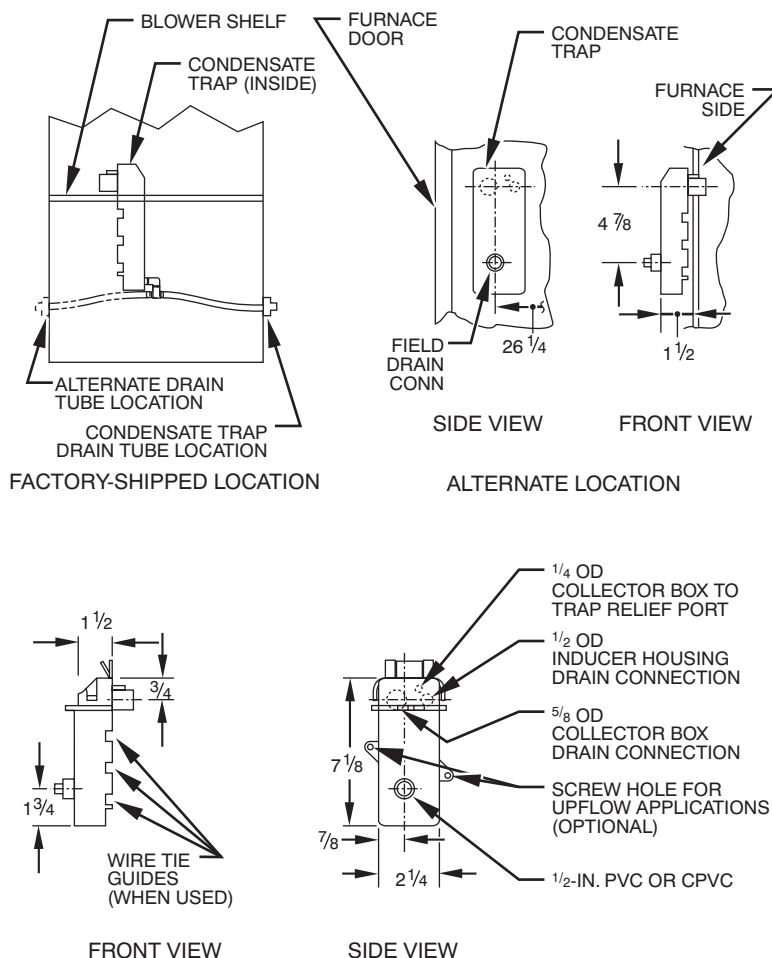
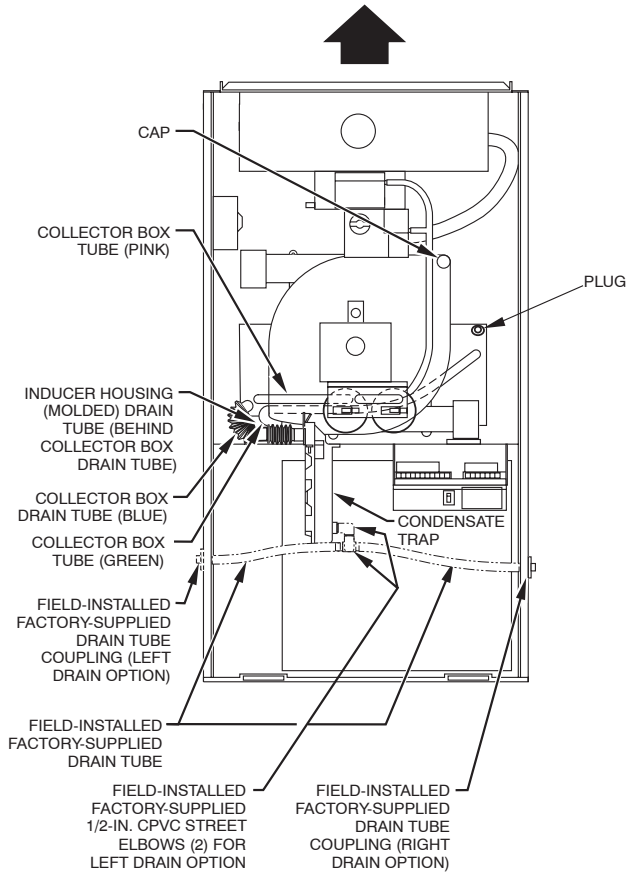

Fig. 6 – Condensate Trap
**Fig. 7 – Factory-Shipped Trap Location
Some assembly and modifications are required for condensate trap drainage tubes. (See Fig. 6, 7 and 8.) All drain and pressure tubes are connected as shown in Fig. 7 from the factory. See appropriate application instructions for these procedures.
The condensate trap is factory installed in the blower shelf. A factory-supplied tube is used to extend the condensate trap drain connection to the desired furnace side for field drain attachment. See Condensate Trap Tubing section for drain tube extension details. (See Fig. 6.)
NOTE: See Fig. 7 or review label on main furnace door to confirm location of these tubes.
- e. Cement 2 factory-supplied 1/2-in. street CPVC elbows to rigid drain tube connection on condensate trap. (See Fig. 7.) These elbows must be cemented together and cemented to condensate trap drain connection.
NOTE: See Fig. 7 or 8 or tube routing label on main furnace door to check for proper connections.